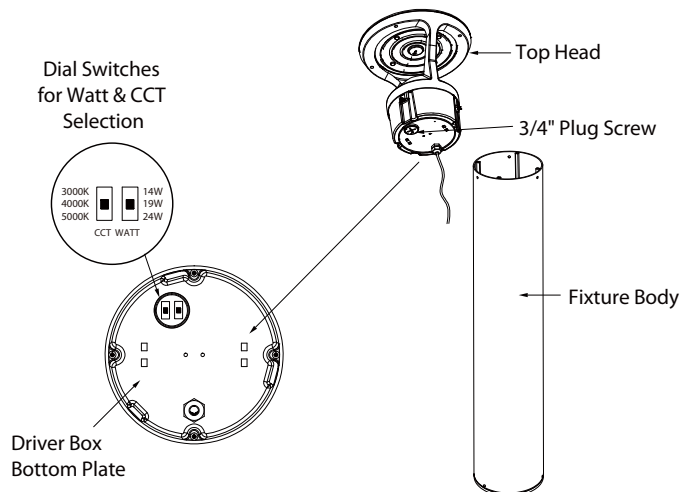

Fig 4
5. Remove the 3/4" plug screws, and select desired wattage & CCT, through the dial switches on the driver box bottom plate. Fig. 4